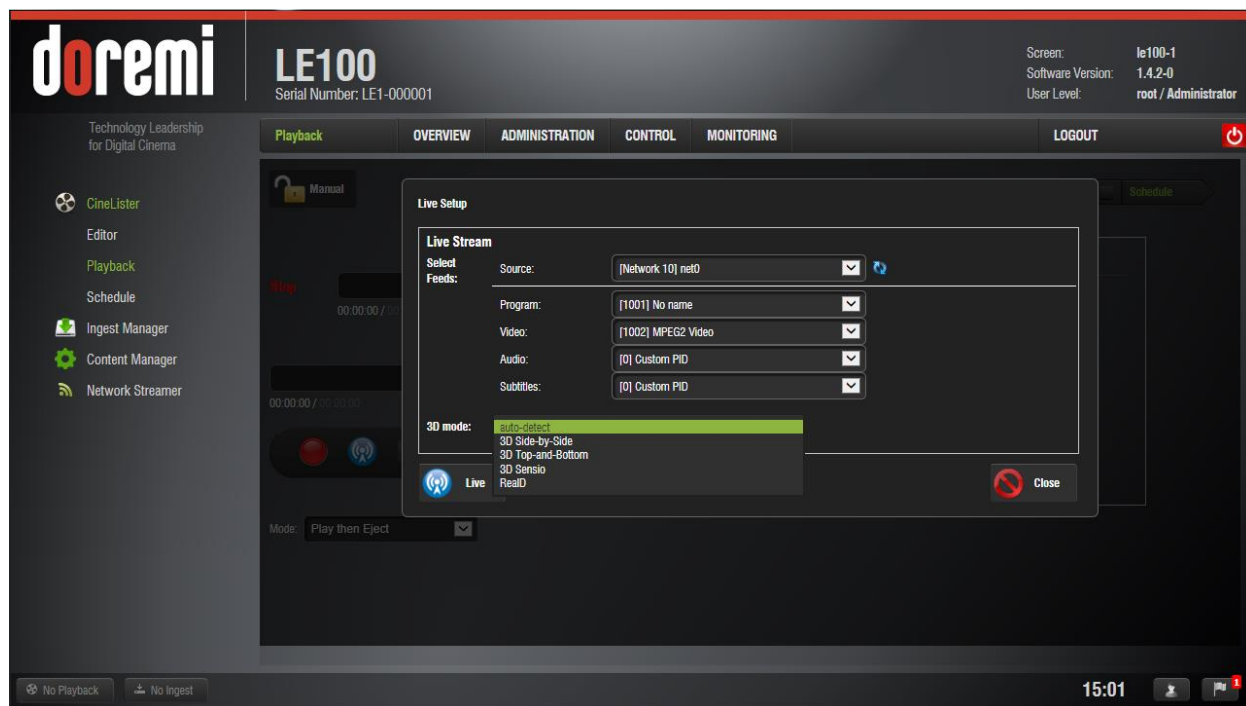

Figure 19: Live Set Up
- Click on the “Live” button and the Live Setup dialog window will appear (see Figure 19).